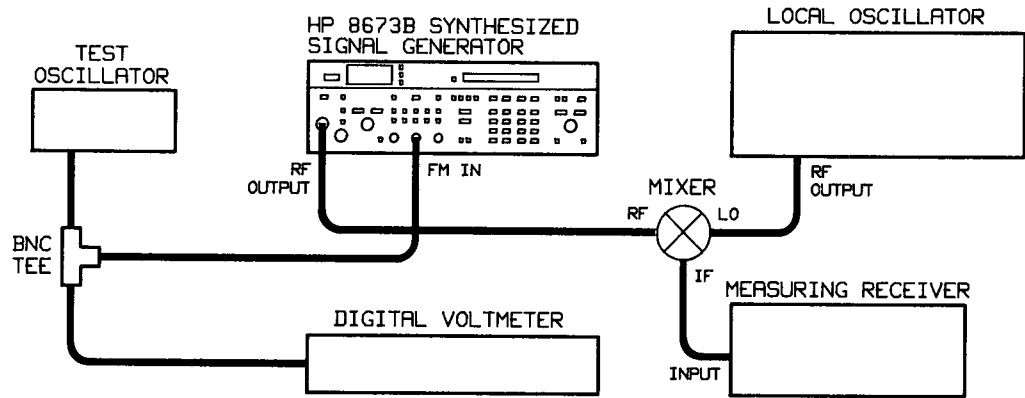

Figure 4-36. External FM Accuracy and Meter Accuracy Test Setup
1. Connect the equipment as shown in Figure 4-36.